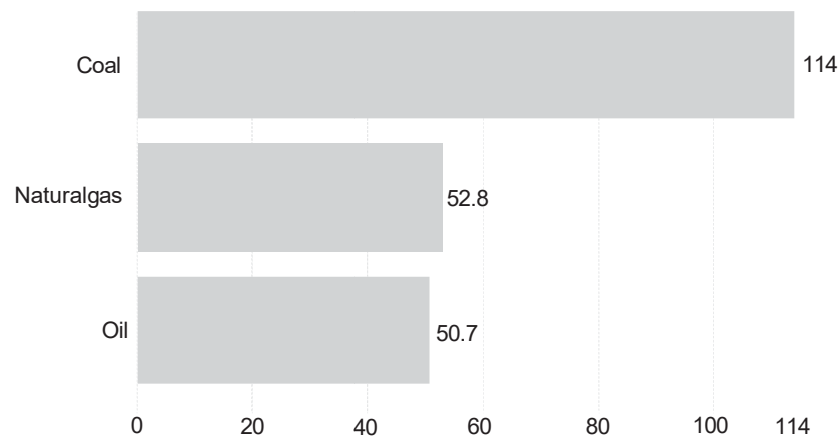

Fig. 1.5.1 Years of fossil fuel extraction remaining for future as on 2016
- Fig. 1.5.1 shows fossil fuel extraction remaining for future as on 2016.